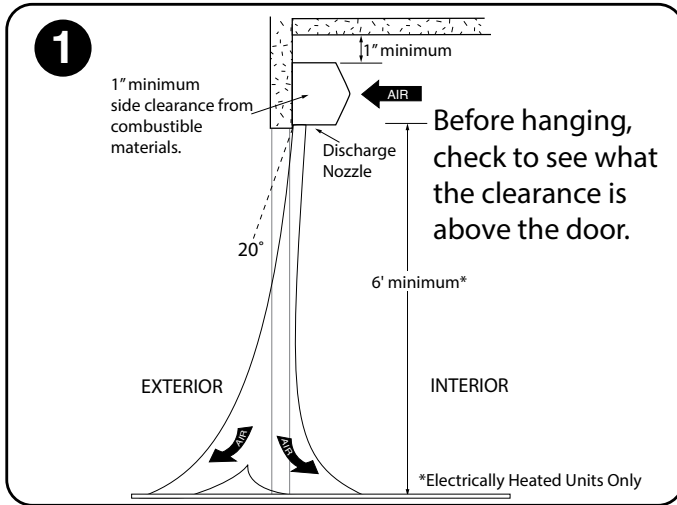

**FIGURE 1**
**ACCESSORIES:** The air curtain ships with a wall mounting plate; remove and save the two (2) locking screws from the back corners and detach the wall mounting plate. **See FIGURE 1.**